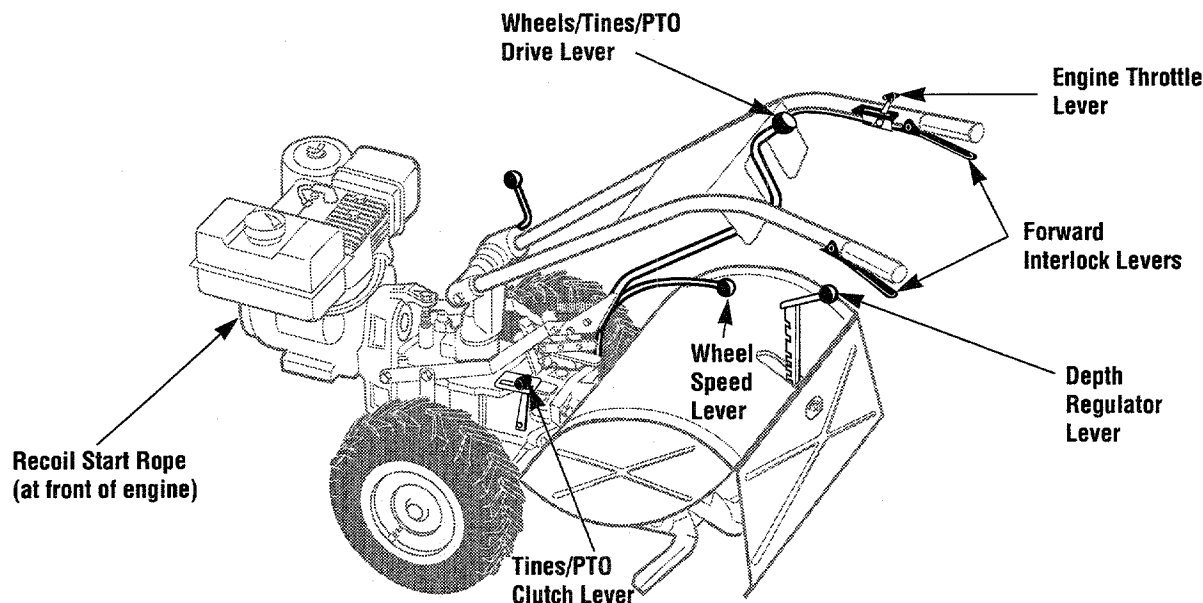

Figure 4-2: Tiller and engine controls.
4. Shift the Wheels/Tines/PTO Drive lever (Figure 4-2) into NEUTRAL position. See Section 3, *Controls* for more information on this lever.
1. With the engine off, place the Wheels/Tines/PTO Drive Lever (Figure 4-2) in the NEUTRAL position. If in the FORWARD position, tap the lever sharply upward, it should automatically move into NEUTRAL position.
2. Put the Depth Regulator Lever in the Travel position (lever all the way down) so that the tines are off the ground. To do this, lift up on the handlebars, pull the lever (Figure 4-2) back, and push it down all the way to the top detent (notched) position.
3. Move the Wheel Speed Lever (Figure 4-2) to either the SLOW or FAST position. Be sure to roll the wheels while shifting the lever until the wheels engage.
4. Move the Tines/PTO Clutch Lever into DISENGAGE position (Figure 4-2).
7. Move engine throttle lever (Figure 4-2) away from STOP.
5. Warm up the transmission gear oil as follows: With engine running, move Wheel Speed Lever (Figure 4-2) to FREEWHEEL (then block wheels so they can't roll), put Tines/PTO Clutch Lever into DISENGAGE, then squeeze one of the Forward Interlock Levers and shift the Wheels/Tines/PTO Drive Lever to FORWARD.
1. Shift the Tines/Wheels/PTO Drive Lever (Figure 4-2) into NEUTRAL and move the Wheel Speed Lever to the SLOW position.
2. Move Tines/PTO Clutch Lever (Figure 4-2) into DISENGAGE position.
1. At the end of a row, move the Wheels/Tines/PTO Drive Lever (Figure 4-2) to NEUTRAL position and reduce the engine speed.
2. Move the Tines/PTO Clutch Lever (Figure 4-2) into the DISENGAGE position.